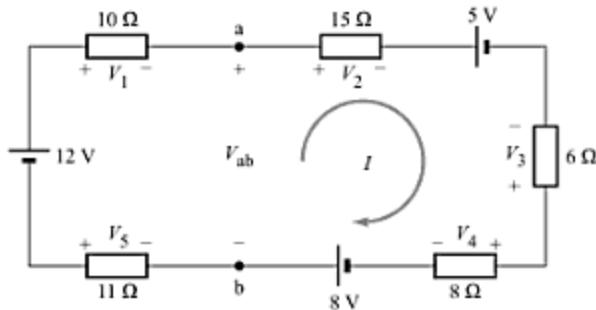

Fig. A-61
- A-13. Find the current and unknown voltages in the circuit shown in Fig. A-61. [Ans. $0.3 \text{ A}, 3 \text{ V}, 4.5 \text{ V}, -1.8 \text{ V}, 2.4 \text{ V}, -3.3 \text{ V}$]
- A-14. Find the voltage V_{ab} in the circuit shown in Fig. A-61. [Ans. 5.7 V]